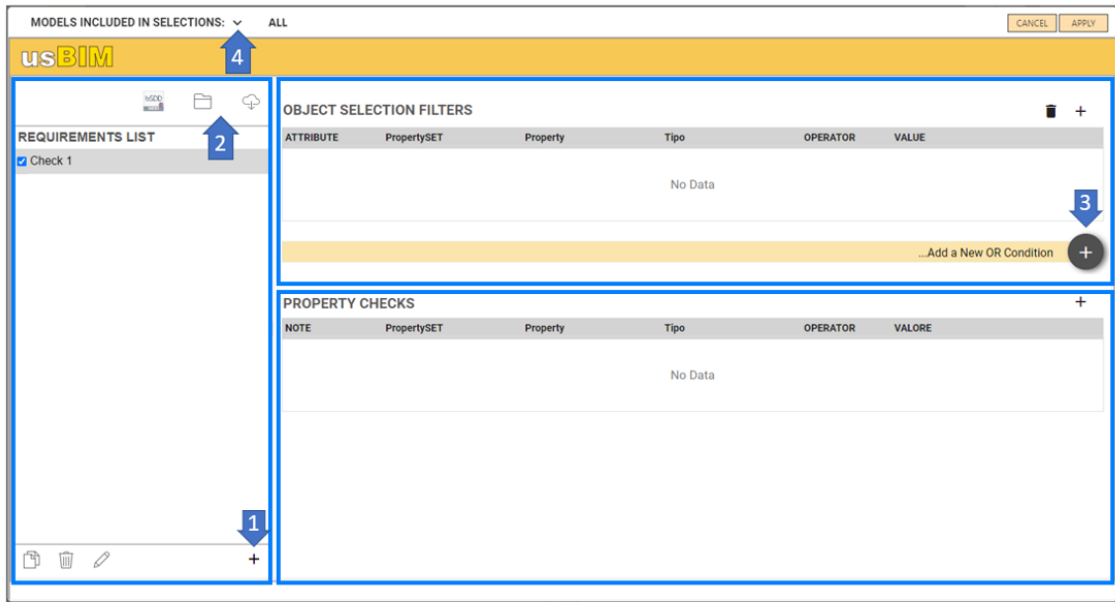

Figure 5. Manage Filters and Controls
- Requirements List: allows you to set the number of actions to be taken on the models to be verified. You can add more checks to the list of requirements by clicking the "+" button (arrow 2 Figure 5). You can import/export models lists (arrow 3 Figure 5). The checks can be selected/deselected so as to leave the user free to choose in the different scenarios. The checks can be selected/deselected so as to leave freedom of choice to the user in the different scenarios, in the case in which multiple checks are selected, the logical operator AND comes into play (implies the satisfaction of both propositions)
You can characterize selection filters by using the OR logical operator (satisfying at least one of the two operations) - (arrow 4 Figure 5)
- Templates included in selections: (arrow 5 Figure 5) You can indicate which templates to apply the configured filtering to.